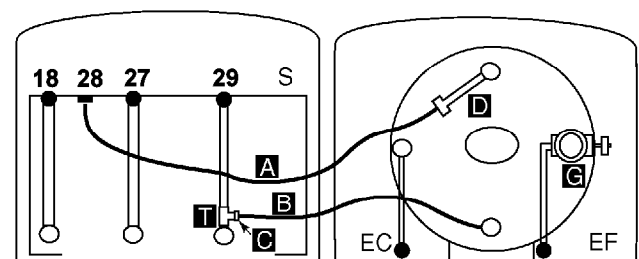

Fig. 10
Connect the long flexible tube (A Fig. 10) between the hot water isolating valve (32 Fig. 10) and the inlet of the coil (42 Fig. 10) using the tail (D Fig. 10). The short flexible pipe (B) is connected between the outlet of the coil (39 Fig. 10) and the central heating return pipe using the tee supplied which must be soldered on to the return tail (C Fig. 10).
Connect the cold water supply (EF) to the combination safety valve (G Fig. 10) using the short tail. Use the long tail to connect the hot water outlet (EC).